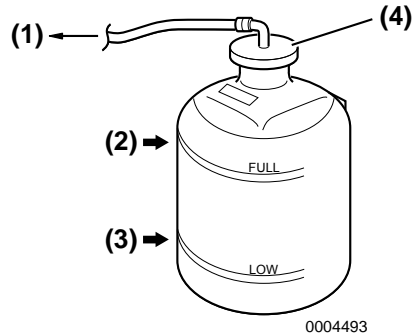

Figure 12
6. Check the coolant level in the coolant recovery tank. The level should be at the FULL mark (Figure 12, (2)). Add coolant if necessary.
7. Remove coolant recovery tank cap (Figure 12, (4)) to add coolant if necessary. NEVER add water.
9. Check the rubber hose (Figure 12, (1)) connecting the coolant recovery tank to the coolant tank / heat exchanger. Replace if damaged.